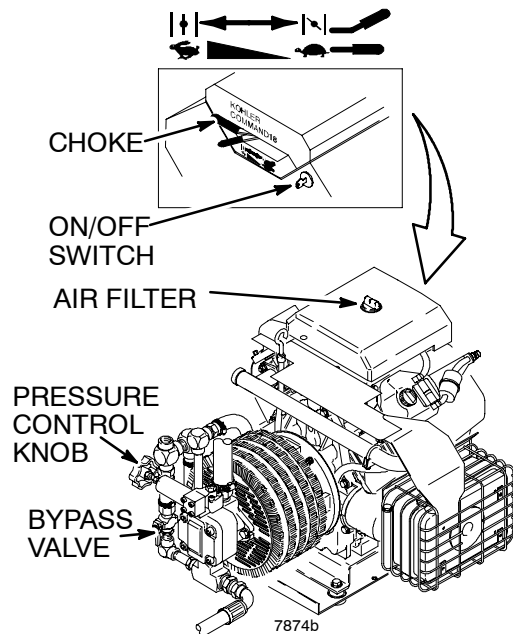

Fig 5
4. Turn the pressure control knob *counterclockwise* until all spring tension is relieved. You will be able to feel it. The sprayer is now set at the lowest pressure setting. Turning the knob further will remove it. Tighten the knob locknut to set. See Fig 5.
5. Open the bypass valve. The valve lever will be parallel to the body of the valve. See Fig 5.
7. Close the choke by moving the choke lever. See Fig 5.
8. Turn and hold the ignition key to START until you hear the engine “catch”, then release the key to RUN. See Fig 5. If the engine does not start, open the choke a little (move lever). If the engine floods, open the choke all the way and try again.
9. After the engine is warm, gradually open the choke lever (move lever) and close the bypass valve. See Fig 5.